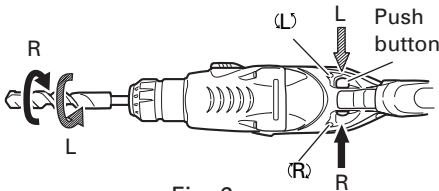

Fig. 6
- 9. **Confirm the direction of bit rotation (Fig. 6)**